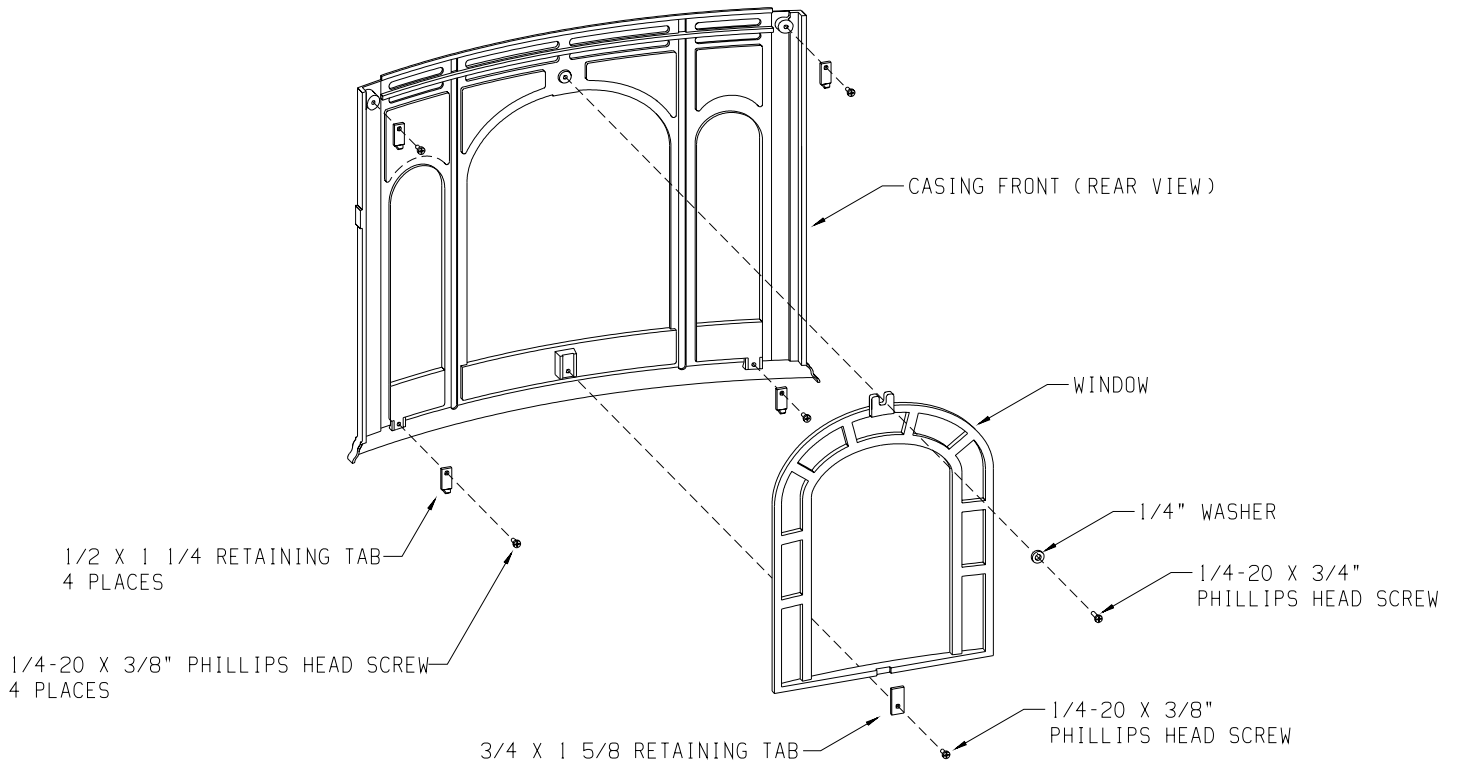

Figure 7
- Removing protective packaging from casing front and window (Figure 7).
9. Refer to Figure 7, removing protective packing foam from casing front and window. Remove the (1) 3/4" bolt and (1) 1/4" washer from top of window. Remove (1) 3/8" bolt and 1 - 5/8" x 3/4" retaining tab from bottom of window. Remove the window from casing front. Remove the protective sheet of foam from the casing front.